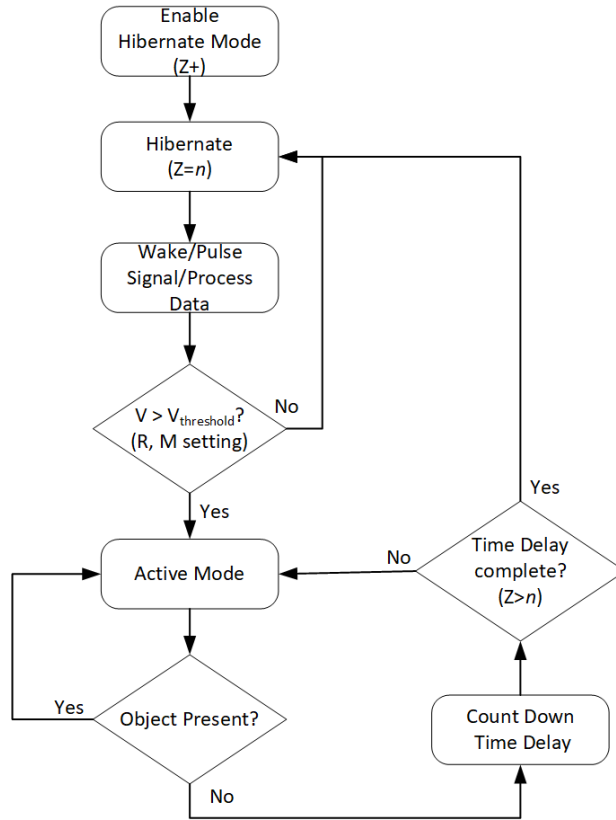

Figure 12. Hibernate Mode Operation
**Hibernate Mode (OPS243 only)** – enables very low power (~100-250mW) duty cycle mode for battery-based applications. In Hibernate mode, the sensor shuts down internal power to the processor and RF for a time period set by the Z=n command. After time *n*, the sensor powers up, pulses a signal, processes the data and makes that data available. If filter values are set on speed (R>, R<), signal magnitude (M>, M<), or direction (R+, R-), the sensor will check to see if the processed data meets any of the threshold values and if so, will stay in active mode. It will continue in this manner until data does not meet the threshold settings at which time the sensor will stay active for Z>*n* seconds before entering back into Hibernate mode. Figure 12 shows graphically this process.